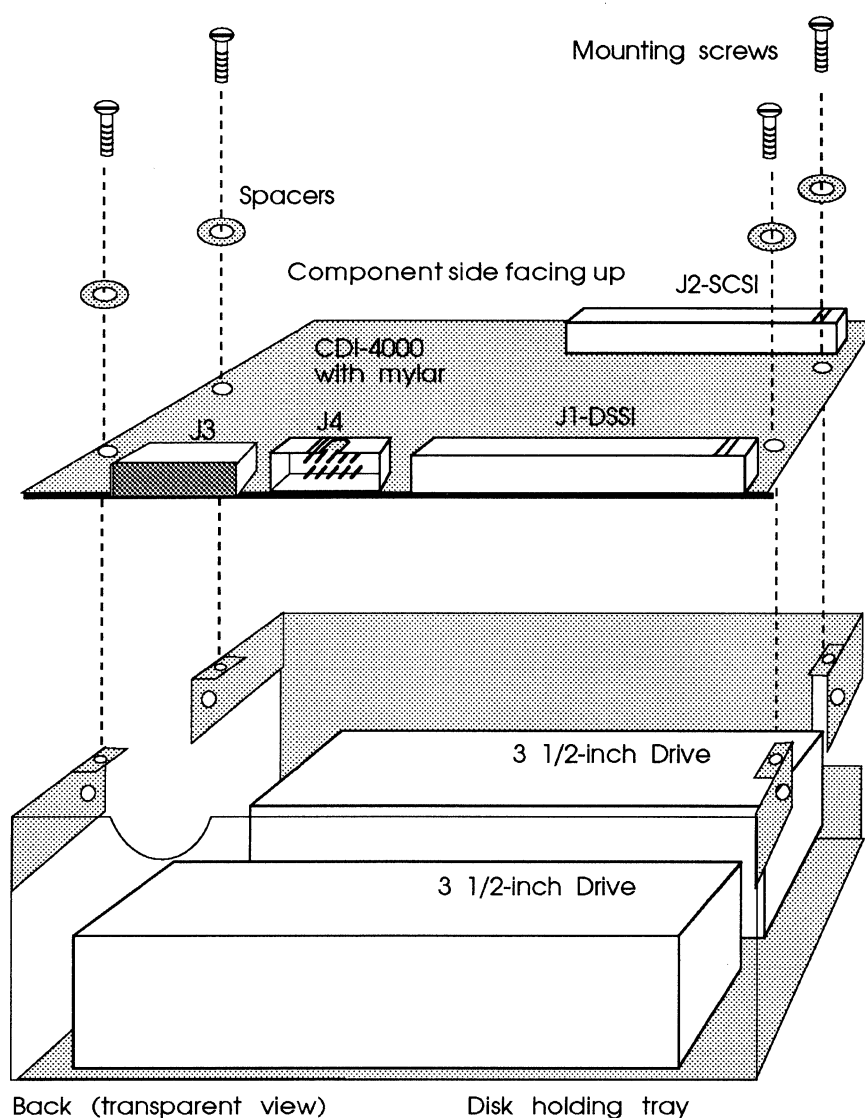

Figure 4-25: CDI-4000-SA2 board mounting
- 9 Mount the CDI-4000 on the top of the disk holding tray (solder side facing the drives and J1 facing the back—where the floating connector will be placed); put four screws and spacers into the disk holding tray through the CDI-4000. See Figure 4-25.